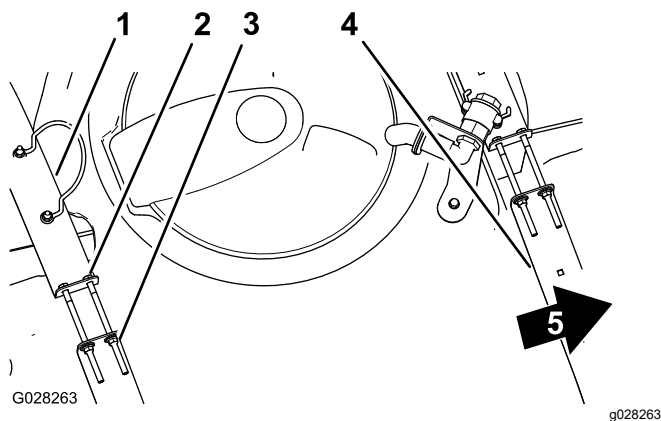

Figure 73
2. Check to see if there is any movement between the tank straps and the tank (Figure 73).
3. If the tank straps fit loose to the tank, tighten the flanged locknuts and bolts at the top of straps until the straps are flush with the surface of the tank (Figure 73).